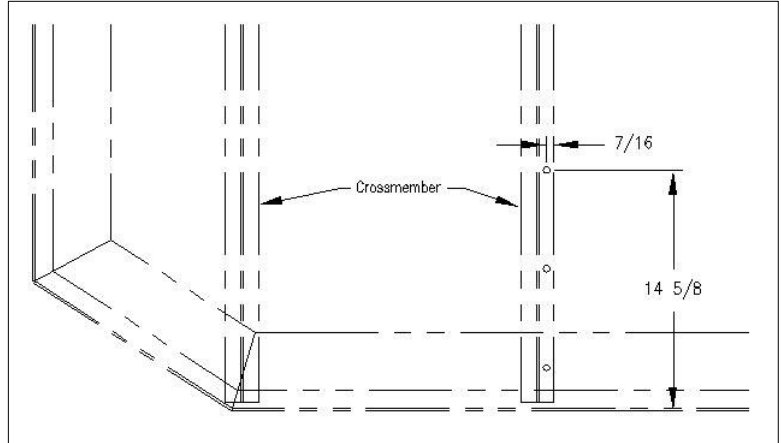

Figure 5
1. Locate second I-beam crossmember from the front of bed. Drill $\frac{25}{64}$ " hole $\frac{7}{16}$ " from back edge of bottom leg and $14\text{--}5/8$ " from outside of the truck bed as shown in figure 5. Use the aluminum toolbox mount angle as a template to drill 2 additional holes in crossmember. Fasten the mount angle to the toolbox using the hardware provided. Finger tighten only.